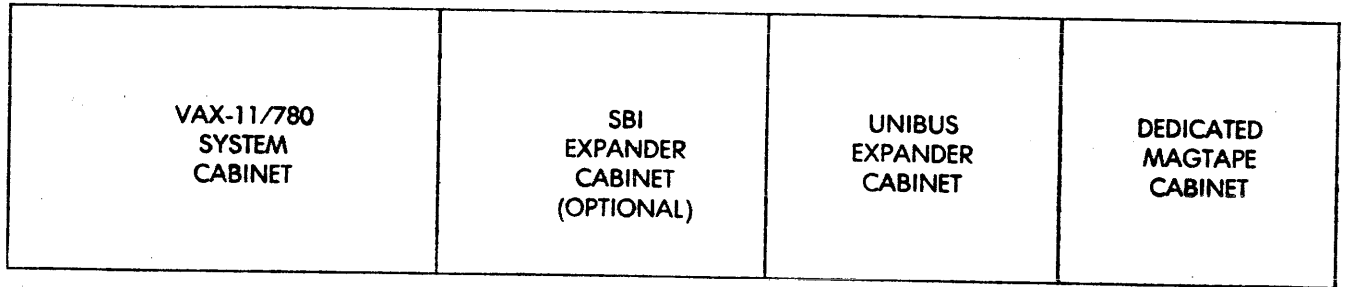

Figure 1-3. VAX-11/780 Cabinet Configuration (Front View)
a. **9400 VAX-11/780 Interface.** The Interface is made up of four PCBs that are installed in a System Industries backplane and cardcage assembly or a DEC RH780 MBA backplane assembly. The System Industries backplane PCB (9400-6206) and cardcage (9400-7203) are installed in one of the four-inch slots in the VAX cabinets. Devices in these slots can be connected to the SBI. There are two such slots in the system cabinet and two more in an optional expansion cabinet. (The system cabinet houses the CPU and memory.) The VAX-11/780 cabinet configuration is shown in Figure 1-3. A hex high paddleboard PCB (9400-6205) is plugged into the rear panel of the Interface backplane. (Hex-high means six DEC card edge connectors fit on the size board used.) Two standard 9400 cables connect the paddleboard to the 9400 Controller cabinet. A System Industries power supply (9400-7210) is available if the compatible DEC MBA power supply already has two MBA devices to support. The four logic boards that make up the Interface are designated as follows: